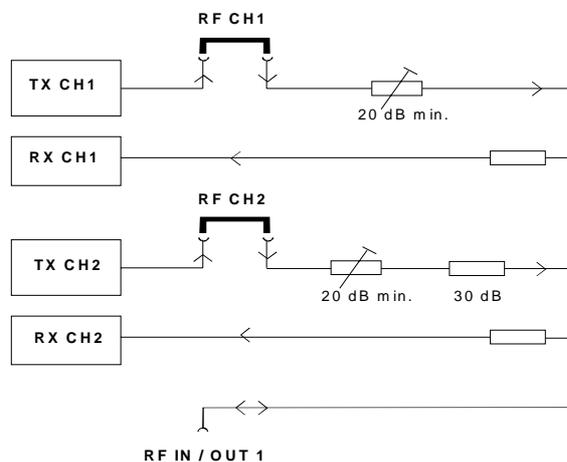

Fig. 3: RF paths in the CRTP/C02
- Apply the SMIQ output signal to the unused right-hand connector. In the analog unit this signal is then combined with transmit signal TX CH2 and the receive channels at the RF IN/OUT 1 connector (see Fig. 3).
Note: *RF CH2 can be faded in the same way as CH1. The minimum insertion loss between the feed point of the SMIQ signal and connector RF IN/OUT 1 is 20 dB for CH1 but 50 dB for CH2 (see Fig. 3). This value must be taken into account when programming the output level of the SMIQ.*
Set the variable attenuator in the fading path shown in Fig. 3 is to be set to minimum.